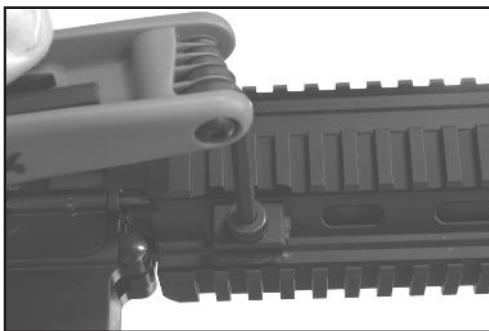

Fig. 44 – Loosening the FFRS screw with hex (Allen) wrench
- a. Insert a 5mm hex (Allen) wrench into the retaining screw located on the lower right hand side of the Free Floating Rail System (handguard) and rotate counter clockwise (Fig. 44). Once loosened, drift out the retaining screw from left to right until the retaining screw reaches its limit of lateral travel.